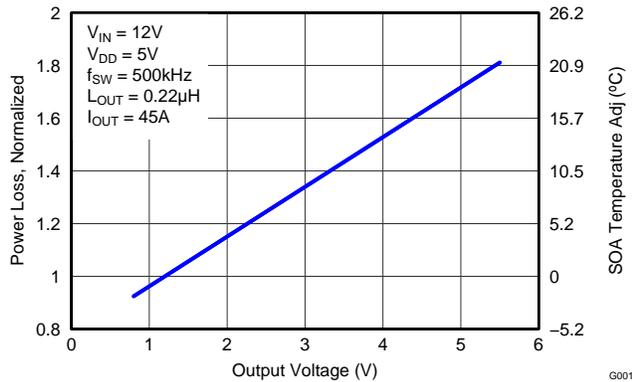

Figure 9. Normalized Power Loss vs Output Voltage
- Normalized Power Loss for output voltage ≈ 1.06 (Figure 9)
- SOA adjustment for output voltage $\approx 1.5^{\circ}\text{C}$ (Figure 9)